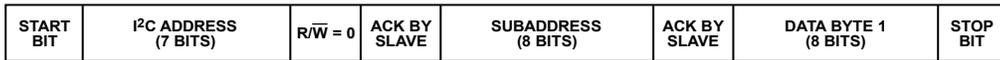

Figure 62. Single Word I2C Write Format
Figure 62 shows the timing of a single-word write operation. Every ninth clock, the SSM3515 issues an acknowledge (ACK) by pulling SDA low.
This is because the subaddress still must be written to set up the internal address. After the SSM3515 acknowledges the receipt of the subaddress, the master must issue a repeated start command followed by the chip address byte with the R/W set to 1 (read). This causes the SSM3515 SDA to reverse and begin driving data back to the master. The master then responds every ninth pulse with an acknowledge pulse to the SSM3515. See Table 15 for a list of abbreviations in Figure 62 through Figure 65.
**Table 15. Abbreviations for Figure 62 Through Figure 65**